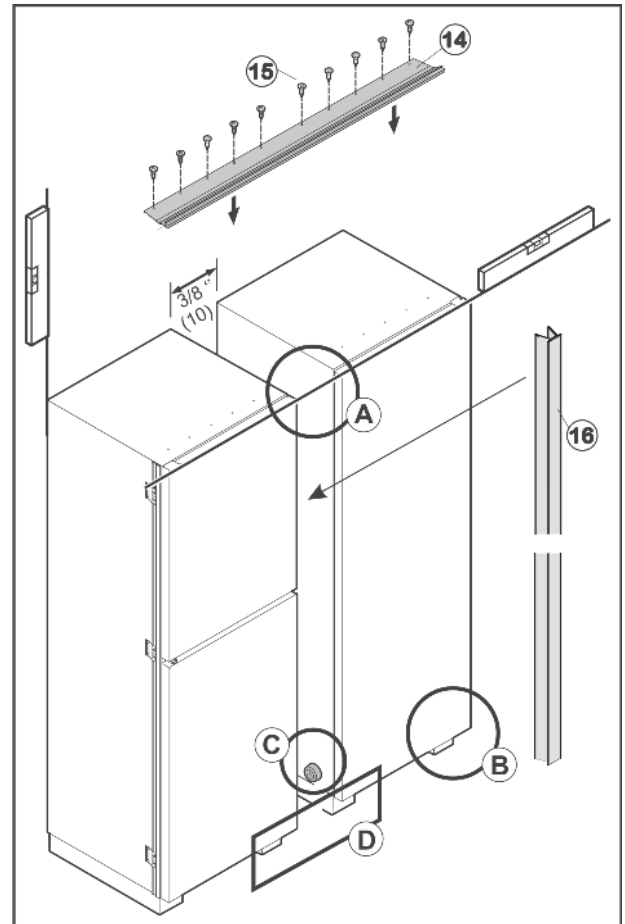
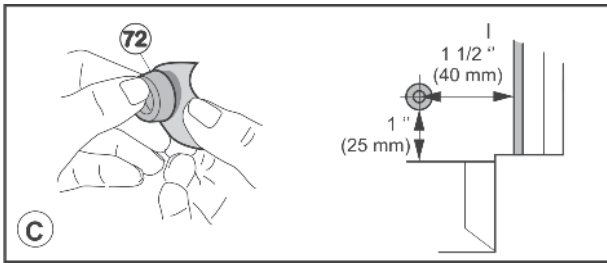
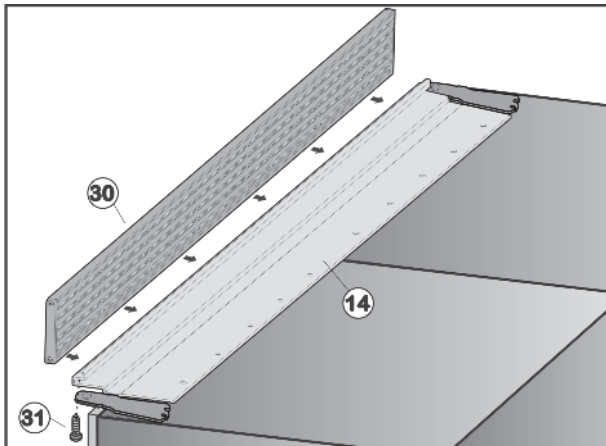
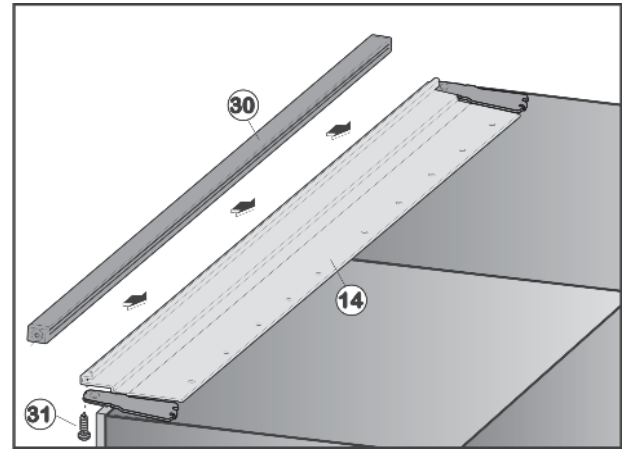

Fig. 40
Fig. 42
Fig. 47
Fig. 48
- ▶ Glue spacer Fig. 42 (72) onto the lower part of the side wall on the handle side, approximately 1.5 in. (40 mm) as measured inwards from the front edge of the appliance.
- ▶ Position end strip Fig. 40 (14) over the installation contour and align it such that the holes in ventilation grille and installation contour are above each other.
- ▶ Screw on upper installation contour Fig. 40 (14) through the pre-cut holes using screws Fig. 42 (15).
- ▶ Position ventilation grille Fig. 47 (30) over the installation contour Fig. 40 (14) and align it such that the holes in ventilation grille and installation contour are above each other.
- ▶ Screw ventilation grille Fig. 47 (30) to installation contour from below using four screws Fig. 47 (31).
- ▶ Position end strip Fig. 48 (30) over the installation contour Fig. 40 (14) and align it such that the holes in ventilation grille and installation contour are above each other.
- ▶ Screw end strip Fig. 48 (30) to installation contour from below using four screws Fig. 48 (31).